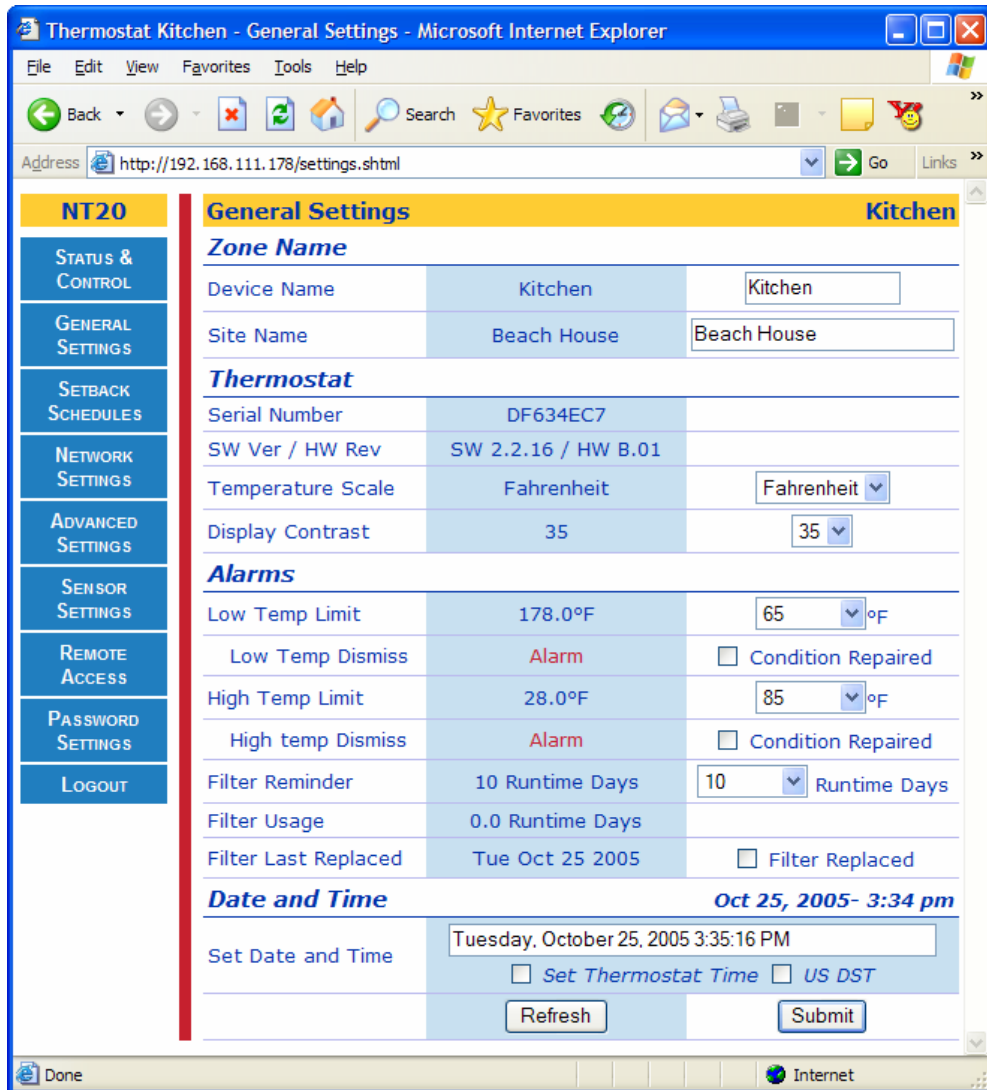

Figure 18b – General Settings Page (Alarms and Alerts Pending)
If a Low Temp Limit alarm is pending, specific action must be taken to clear this condition. In Figure 18b, a Low Temp Limit alarm is set and is noted by the presence of the Heating Alarm Dismiss field. Note that the “**Condition repaired**” box must be checked and the condition must be repaired (i.e. the zone temperature must be above the set Low Temp Limit or the Low Temp Limit is set to “Disable” for the alarm condition to be cleared upon a **Submit**.
If a High Temp Limit alarm is pending, specific action must be taken to clear this condition. In Figure 18b, a High Temp Limit alarm is set and is noted by the presence of the *High Temp Dismiss* field. Note that the “**Condition repaired**” box must be checked **and** the zone temperature must be below the set High Temp Limit or the High Temp Limit is set to “Disable” for the alarm condition to be cleared upon a **Submit**.
- This convenience feature will remind the user that the HVAC system requires maintenance. Specifically this feature will allow the user to set time intervals between HVAC filter changes or cleanings. If enabled, an alarm condition will be set after the pre-set interval has expired, and will be displayed on the Status & Control Page. In addition, this alarm will be sent to the Proliphix website to trigger an e-mail notification if this feature is enabled. (See Remote Access Page). Specific action must be taken to clear this alarm condition. This is a minor (yellow) alarm condition. See Figure 18b